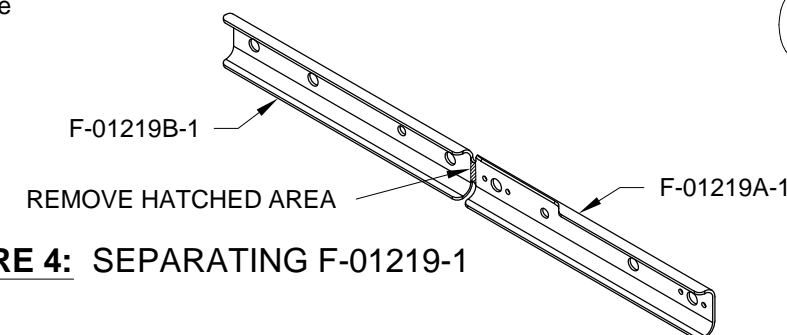

FIGURE 4: SEPARATING F-01219-1
Step 8: Separate F-01219-1 by removing the hatched area shown in Figure 4.